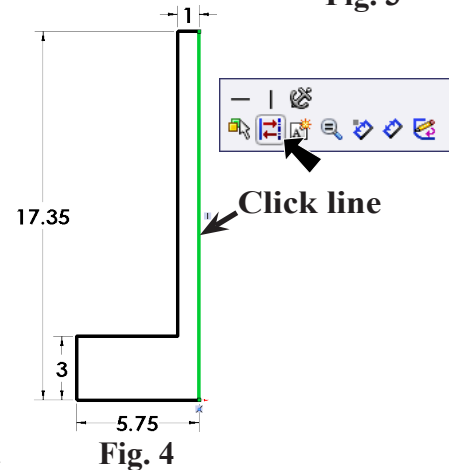

Fig. 4
Step 8. Click **right vertical line** and click **Construction Geometry**  on the Content menu, **Fig. 4**.